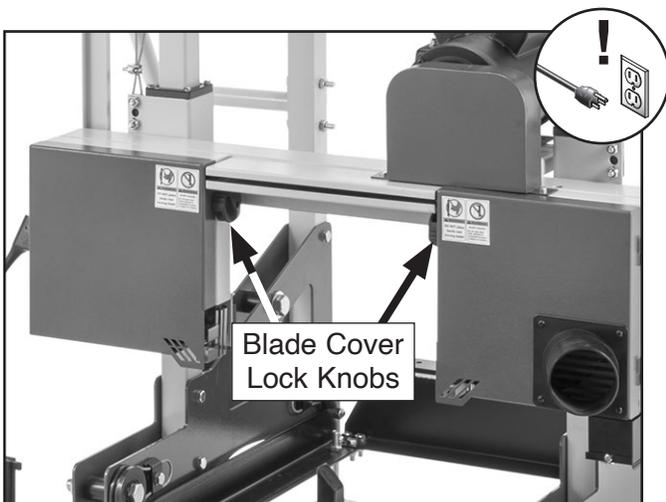

Figure 68. Location of blade cover lock knobs.
2. Turn blade cover lock knobs clockwise to open blade covers (see **Figure 68**).